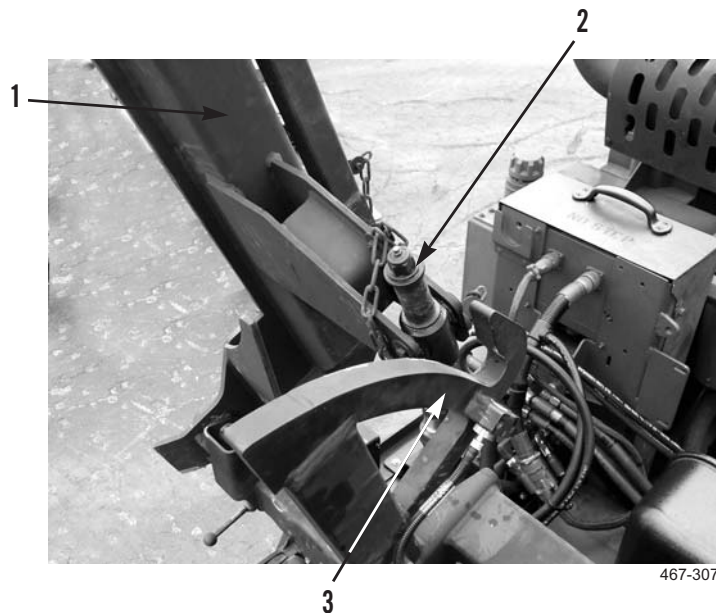

Figure 12. Align Roller Pins With Stowage Guide.
11. Use lifting device to raise lift frame (Figure 12, Item 1) until roller pins (Figure 12, Item 2) align with stowage guide (Figure 12, Item 3).